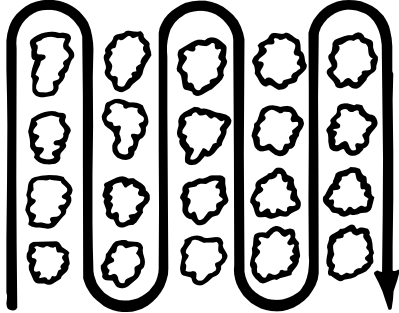

Figure 6
- When laying out plant rows, be sure to allow enough width to permit cultivation between the rows. See Figure 6.